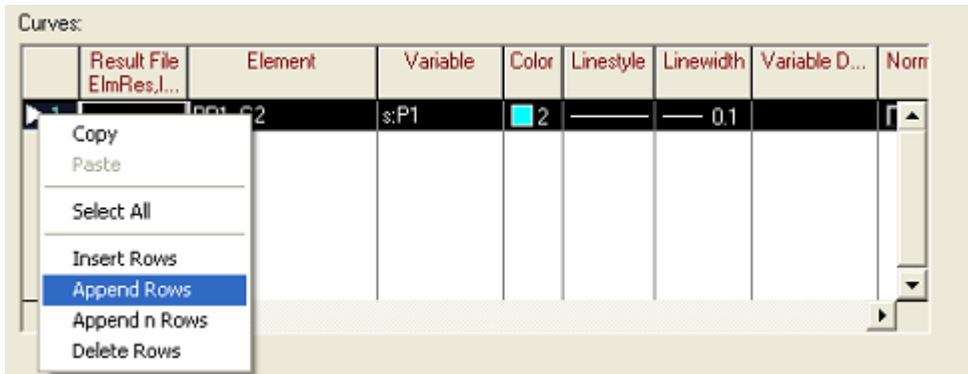

Fig. I.5: Adding a new variable to a subplot
- ▶ Right click on the curve number and select "Append Rows" from the context sensitive menu (Figure I.5). A new row in the "Curves" field is generated, there you can define a second variable to display in your subplot.